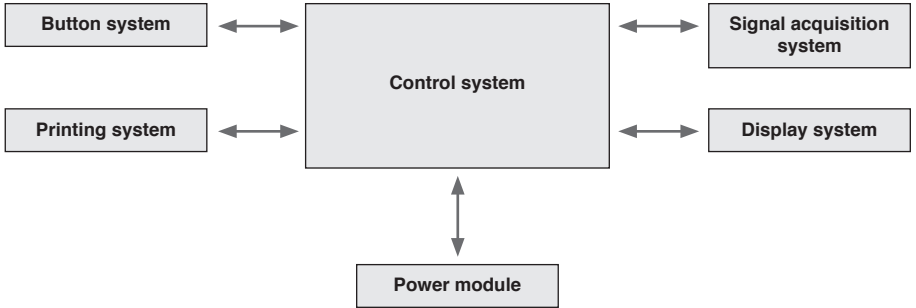

Figure 4-1 Block diagram of control unit
(2) Principle block diagram is shown in Figure4-1.